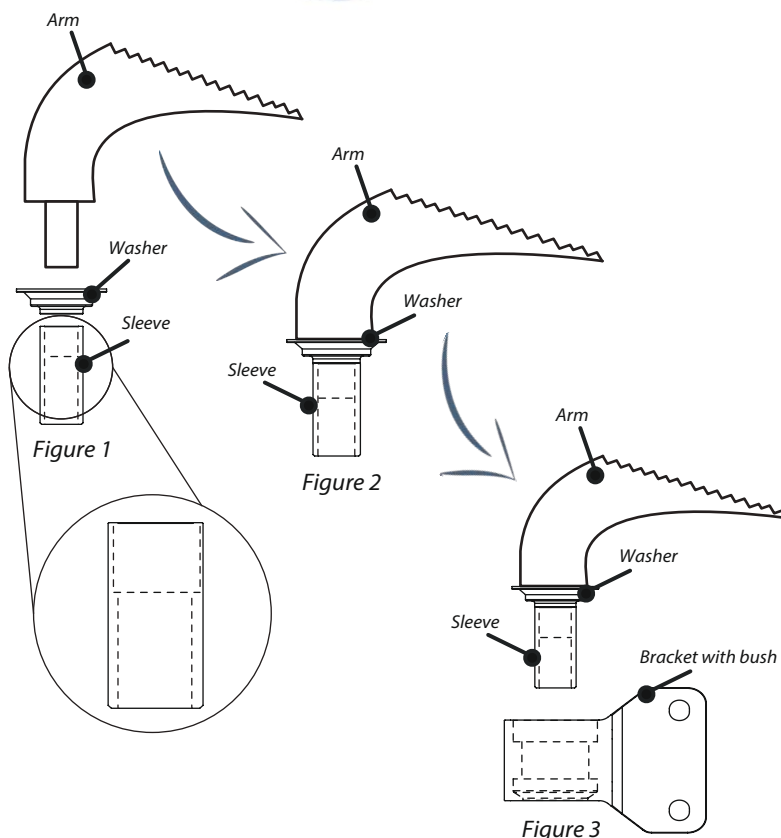

Figure 4 - Right-hand and left-hand bush and bracket assembly
**Note: the brackets and bushes are left and right handed and will only fit onto the car in the orientation shown in figure 4.**